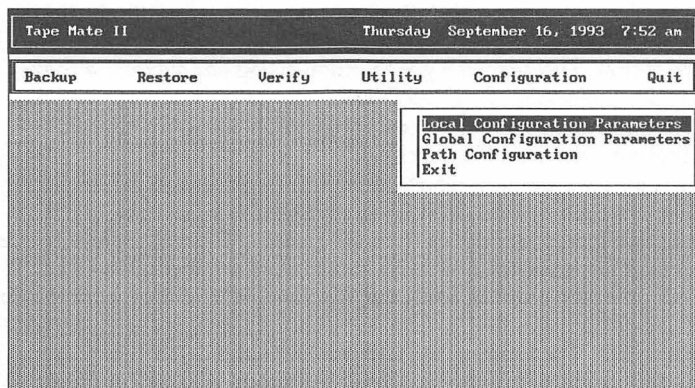

Figure 55 Configuration Menu
- 1 Select **Configuration** from the main menu. The Configuration menu appears, as shown in *Figure 55*.